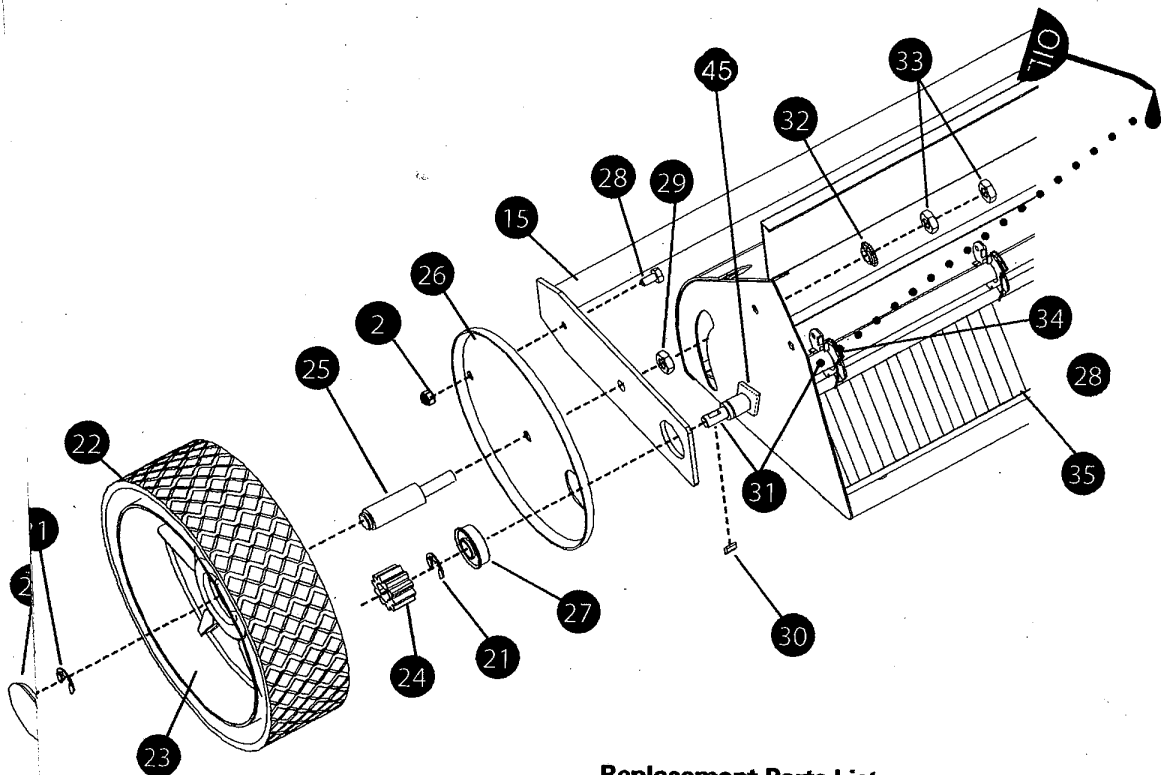

Figure 1
Insert both Top Hamper Side Tubes (H) through the loop on the fabric of the hamper (Outlined). Secure to the Top Hamper Cross Tube using the spring button located on the ends. Fig. 1
**AXLE BEARING.** Apply SAE #2011 or equivalent to lubrication points shown in Figure 1 before every use.